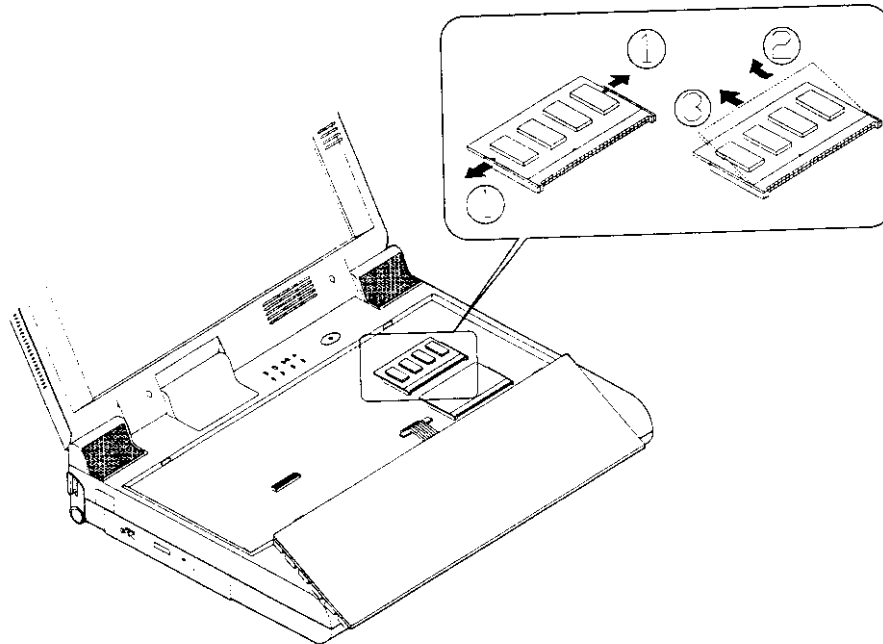

Figure 2-7
4. Gently pull the two latches on both ends of the module outward. The module will pop up (Figure 2-7).